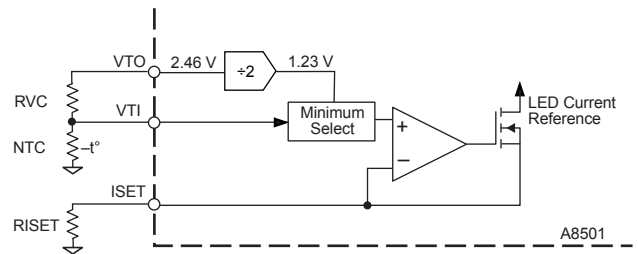
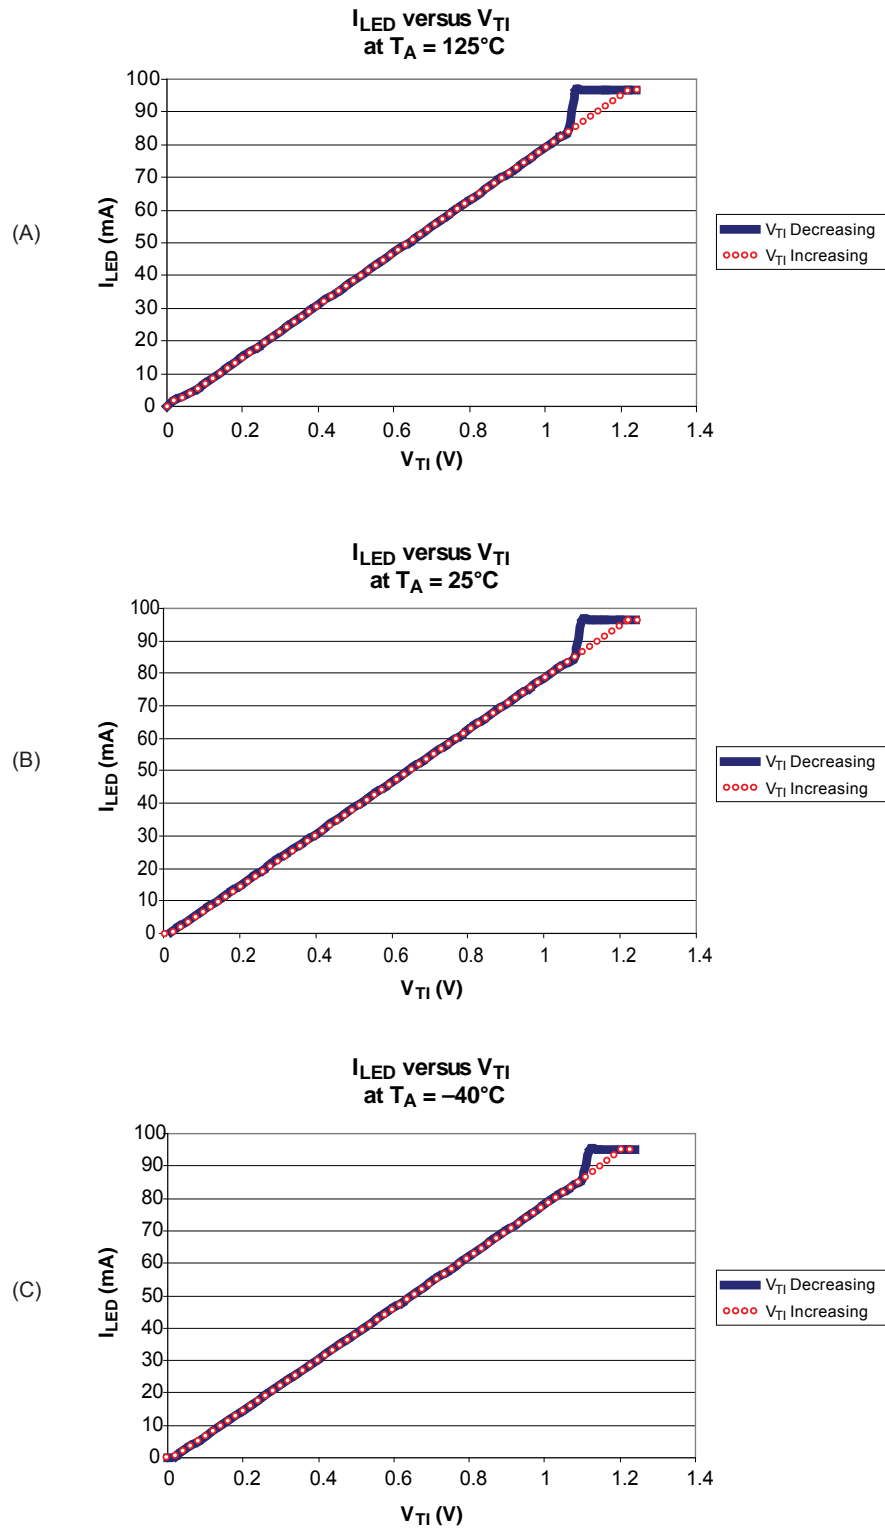

Figure 5. Thermal derating reference circuit
Figure 6. LEDx current versus  $V_{T1}$
- Analog dimming using the VTI pin. External DC voltage can be applied to the VTI pin to control LED current. LED current varies as a function of voltage on the VTI pin. This configuration is shown in figure 5.
**Thermal Derating** Thermal derating can be achieved by connecting an NTC thermistor between VTI and ground, as shown in figure 5. When the A8501 is enabled and  $V_{TI} > 1.1$  V, 100% current for the LEDs is controlled by the ISET and DIM pins. This is represented by the solid blue curves in figure 6. When  $V_{TI}$  falls below 1.1 V,  $V_{ISET}$  starts to follow  $V_{TI}$ , resulting in  $I_{LEDx}$  varying proportionately with  $V_{TI}$  represented by the overlap of the dotted and solid curves. The proportion of  $I_{LED}$  to  $V_{TI}$ , when LED current is controlled through the VTI pin, is calculated as:
There is a hysteresis built into the VTI pin circuit, so while  $V_{TI}$  is decreasing, there is a delay before proportional change begins if VTI pin voltage starts above 1.1 V, as shown by the solid blue curves in figure 6. When  $V_{TI}$  starts below 1.1 V, or falls below 1.1 V during operation and then starts increasing again  $V_{ISET}$  will follow  $V_{TI}$  until the voltage reaches 1.23 V as shown by the red-and-white dotted curves in figure 6.